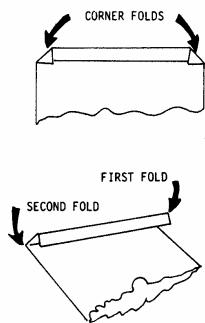

Figure 3-9
1. Properly install paper envelope over the filter screens. Fold the open end of the envelope, and clamp with retaining clips so that crumbs cannot enter. (See Figure 3-9)